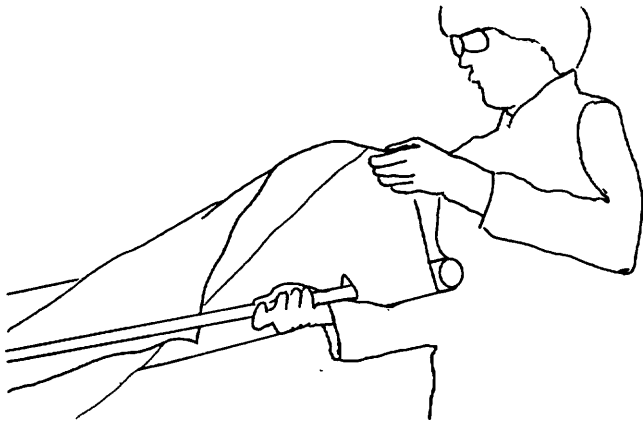

FIG 10
9) Install the washout tips, pushing them into the protruding sleeves until they come up against the clevis pin securing the sleeves in the leading edges. Then rotate the washout tips until you feel them lock into place. (Fig 10) Note: Installation of the washout tips is much easier if done now, before the battens are installed. Also Note: There are two different styles of washout tip and sleeve assemblies used on the HP. On early HP's the tip was secured by two ball bearings which were held captive under a rubber sleeve which fit around the outside of the washout sleeve. On later HP's the washout tip has a spring loaded button inside the tip, which fits into a hole in the sleeve. If you need to order replacement washout tips or sleeves, be sure to specify which type, as they are not interchangeable, except as an assembly.